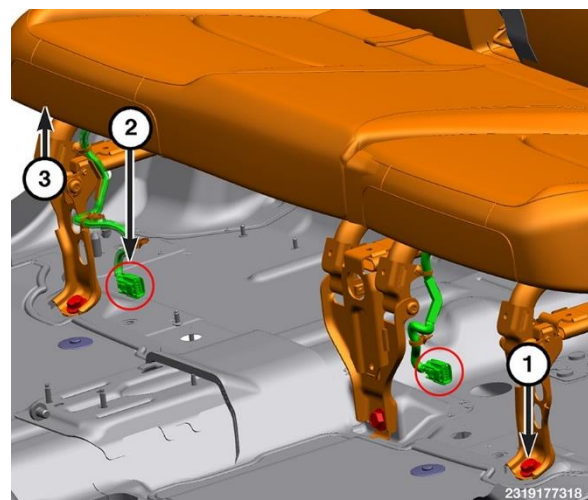

**Figure 32 – Rear Seat Components**
33. Disconnect the wire harness connectors (3), if equipped (Figure 32).
34. Remove the bolts (1) at the front of the rear seat (Figure 32).